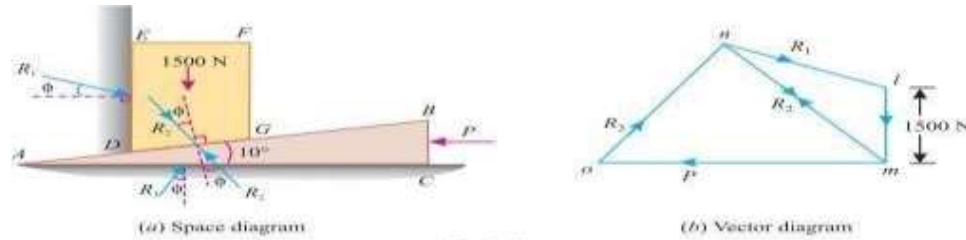

Fig 3.19
1. First of all, draw the space diagram for the block DEFG and the wedge ABC as shown in Fig.3.19 (a). Now draw reactions R_1 , R_2 and R_3 at angles of ϕ (i.e. 16.7° with normal to the faces DE, AB and AC respectively).